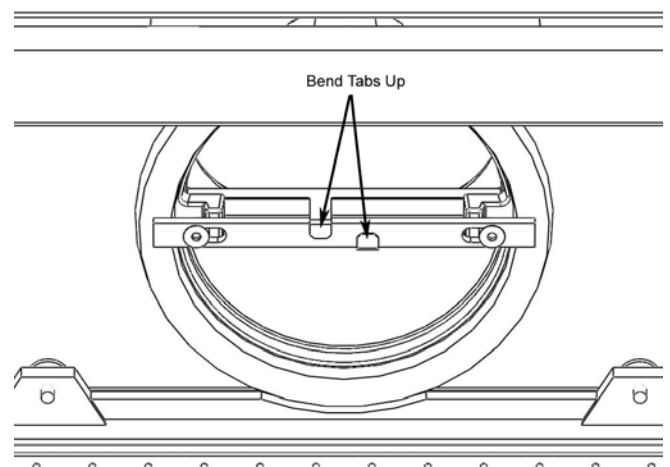

FIG.12 Bending Flue Tabs
4. Bend the two tabs over to secure the connector elbow. See FIG. 12.